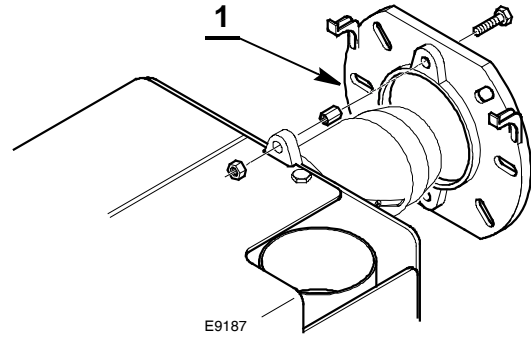

Fig. 7
- Put on the flange 1)(Fig. 7) the screw and two nuts.